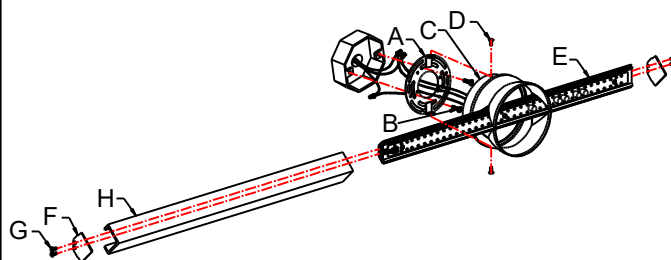

Fig. 2
### CONNECTING THE WIRES (Fig.2)
4. Connect the electrical wires as shown in Fig. 2, making sure that all wire connectors are secured. If your outlet has a ground wire (green or bare copper), connect the fixtures ground wire to it. Otherwise, connect the fixture ground wire directly to the mounting plate (A) using the green screw provided. After wires are connected, tuck them carefully inside the outlet box.
5. Place the fixture's back plate (C) over the mounting plate (A) and secure with screws (D).